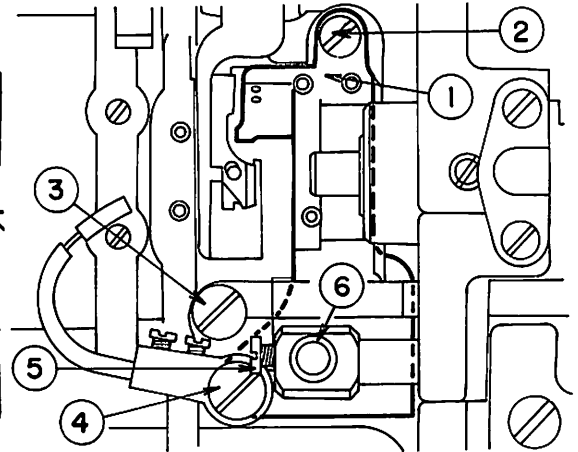

Fig. 35
To remove the knife installing base (Fig.35 ①), do as follows in order:
① Take out the sewing hook.
② Loosen the knife forked base (Fig.35 ⑤), and pull out the knife forked base pin (Fig.35 ⑥).
③ After removing the hook thread presser link hinged screw (Fig.35 ③), and if the hook presser hinged screw (Fig.35 ④) knife installing base set screw (Fig.35 ②) is pulled out, the knife installing base will come off. To install back, reverse this order.